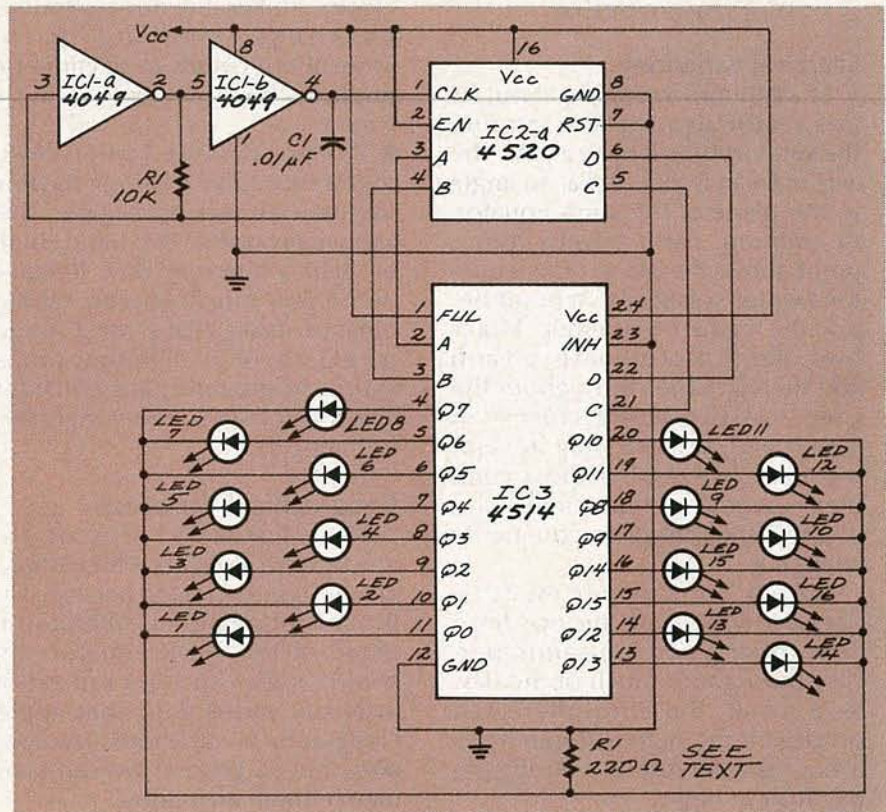

FIG. 2
A control node is shown in Fig. 2. Each node has a unique 7-bit address that is set via DIP-switch S1, which connects to the seven address lines (A0-A6) of IC3.
As shown in Fig. 2, the four-conductor bus runs straight through each node from J1 to J2. One line is for ground, another for +12-volts DC, one for the common transmit line (TRO), and another for the common receive line (RI). The overall length of the bus (from the RS-232 interface to the last node on the bus) depends on the degree of electrical noise in the operating environment. The author has successfully operated three nodes, using 20-gauge unshielded cable, at a cumulative length of 200 feet.